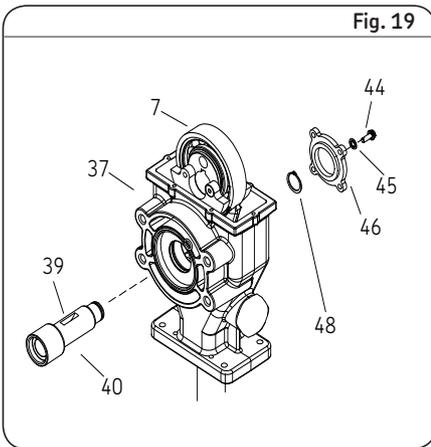
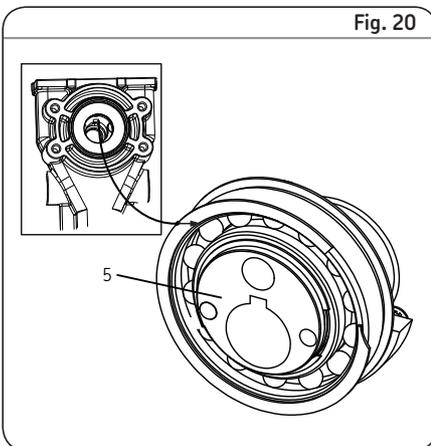

Fig. 19
Fig. 20
- 44 Align the crank rod (7) with the shaft (40) mounting hole. Refer to **fig. 19** and **fig. 20**.
- 45 While aligning the key (39) on the shaft (40) with the eccentric key way (5), slide the shaft (40) into the eccentric (5). Refer to **fig. 20**.
- 46 Install the retaining ring (48) on the shaft. (40).